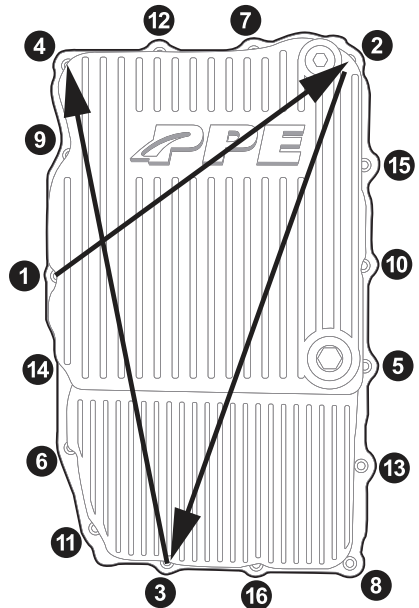

Fig.1
- Step 6. Install remaining bolts. Tighten in crossing pattern as depicted in Fig 1. Torque bolts 8-10 ft. lbs.